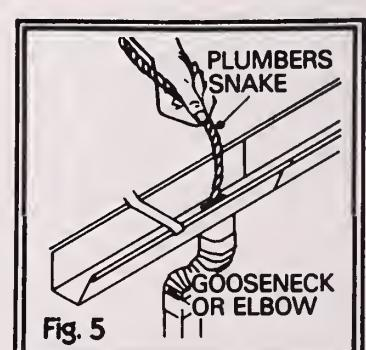

Fig. 5
7. Should water stoppage occur in the downspout, clean the downspout at the gutter outlet using a plumber's snake or a piece of flexible metal cable (fig. 5).